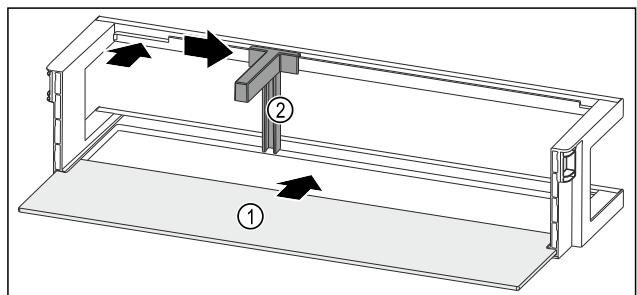

Fig. 148 Door rack with shelf
- ▶ Push the shelf Fig. 148 (1) into the side recesses.
- ▶ Insert the bottle holder Fig. 148 (2) in the recess.
- ▶ Push the bottle holder Fig. 148 (2) to the desired position to the side.